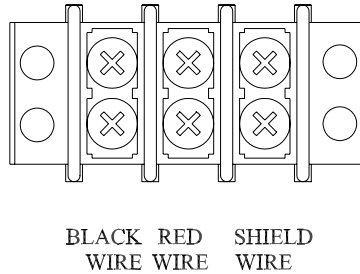

Figure 10 T1 Wiring Diagram
3. Connect the control cable to terminal strip T1 (located to the left of the test jack S9) according to the diagram in figure 10.